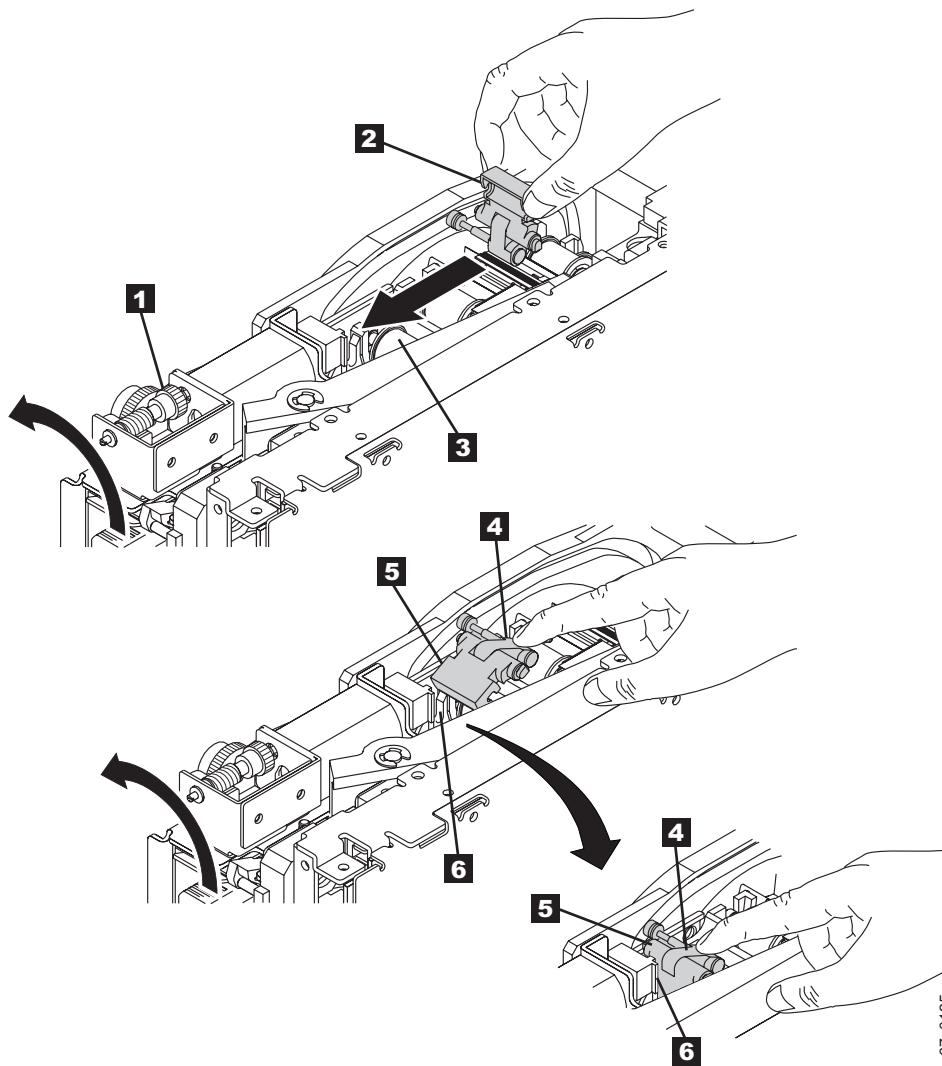

Figure 164. Guiding the leader pin into the tape cartridge
1. Manually rotate the loader motor gear (see **1** in Figure 164 on page 278) in the unload direction until the leader pin block **2** reaches the last roller **3**.